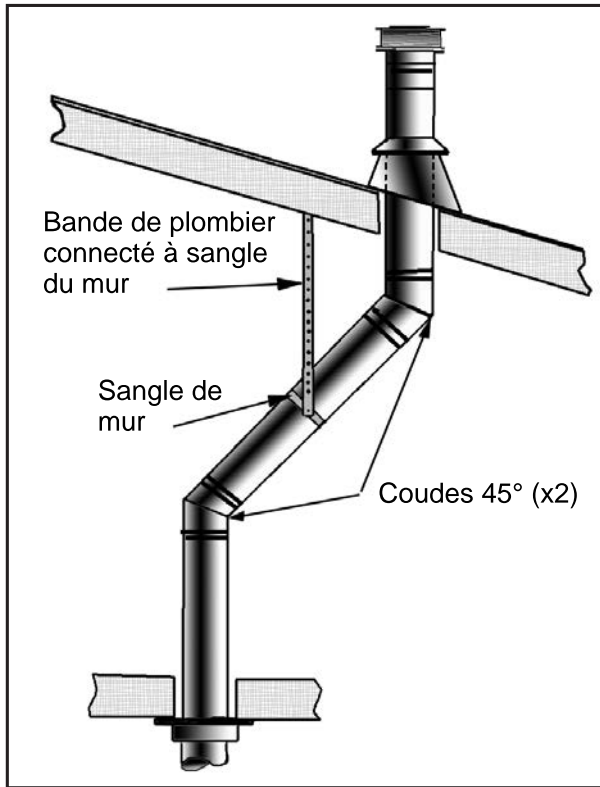
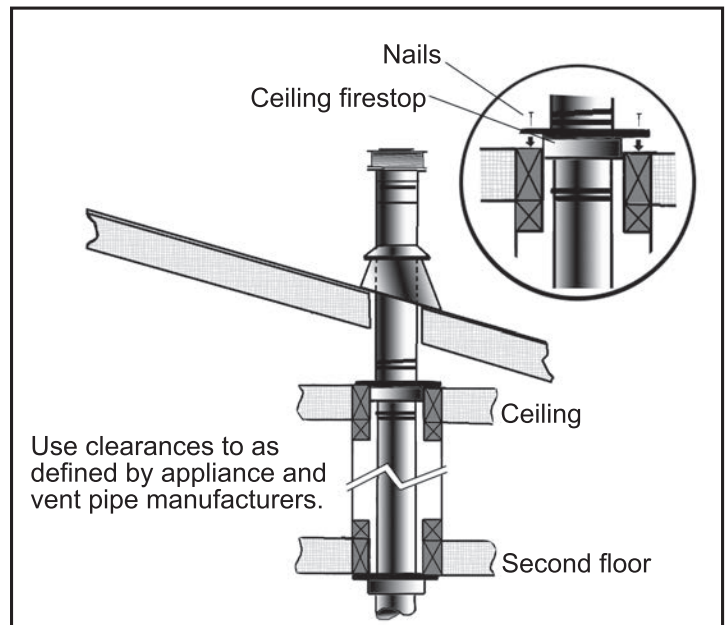

Figure 34: Use of Wall Straps.
Figure 35: Multi-Story Vent Pipe Installation
- (1) If an offset is necessary in the attic to avoid obstructions, it is important to support the vent pipe every **3' (914 mm)**, to avoid excessive stress on the elbows, and possible separation. Wall straps are available for this purpose (see Figure 34).
- (2) When ever possible, use 45° degree elbows instead of 90° degree elbows. The 45° degree elbow offers less restriction to the flow of flue gases and intake air.
- (3) For multi story installations; a ceiling firestop is required at the second floor, and any subsequent floors (see Figure 28). The opening should be framed to **10" (254 mm) x 10" (254 mm)** inside dimensions, in the same manner as shown in Figure 35.
- (4) Any occupied areas above the first floor, including closets and storage spaces, which the vertical vent passes through, must be enclosed. The enclosure may be framed and sheet-rocked with standard building materials. However consult the appliance manufactures installation instructions for the minimum allowable clearance between the outside of the vent pipe, and the combustible surfaces of the enclosure. Do not fill any required air spaces with insulation.